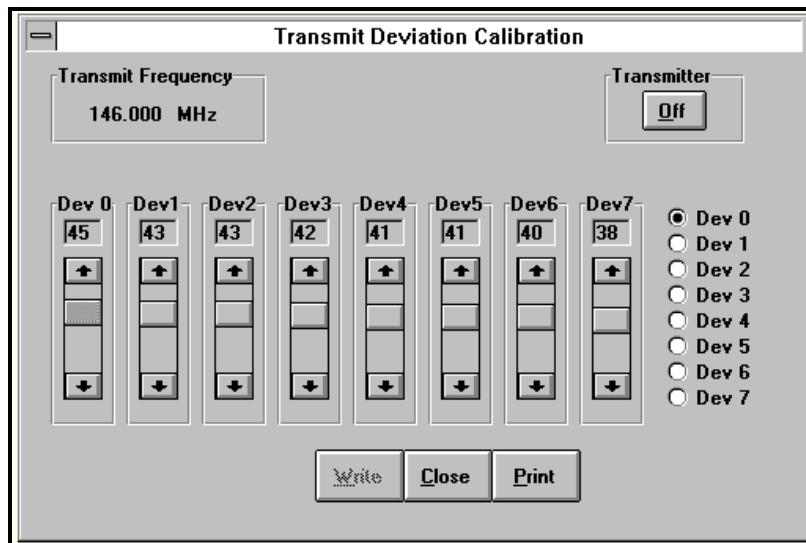

Figure 7.3 – Transmit Deviation Calibration
1. Select “Transmit Deviation Calibration” from the Service dropdown menu. The service adjustment window is shown in Figure 7.3.